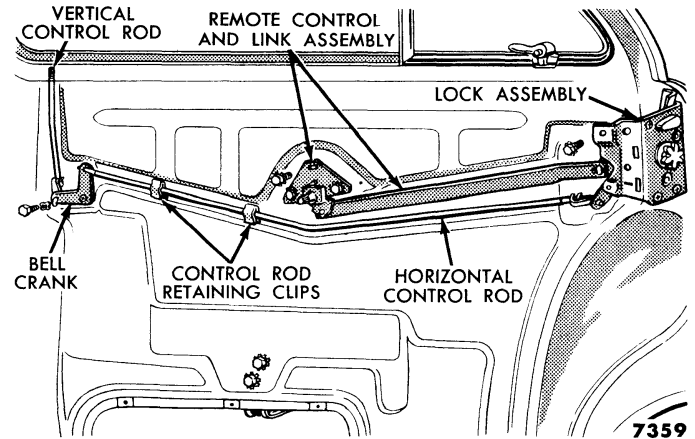
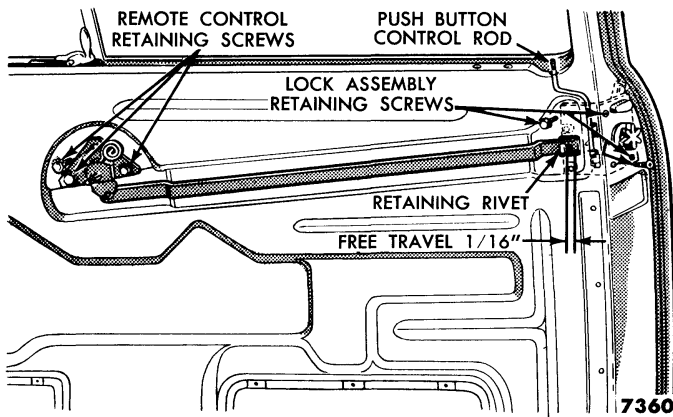

Fig. 14—Rear Door Locking Controls
Fig. 16—Front Door Locking Controls
The rear door control button operates the door lock through a bell crank which operates a horizontal rod connected to the door lock (fig. 14). To assure free operation, lubricate the bell crank and the anti-rattle that covers the horizontal rod.
(1) **REMOVAL.** Remove the door trim panel. Remove the inside locking button. On front doors, the lock assembly must be removed in order to disconnect the push button control rod (fig. 16). On rear doors, remove the cap screw at the bell crank. Bend the two clips off the horizontal rod, and disconnect the vertical and horizontal control rods from the bell crank (fig. 14).
(2) **INSTALLATION.** To install the control rod at the front door, first fasten the control rod to the lock assembly, then install the lock assembly (fig. 16).
To install the control rods at the rear door, fasten both rods to the bell crank (fig. 14). Fasten the horizontal rod to the door lock. Install the bell crank retaining screw. Bend the retaining clips over the horizontal rod. Install the door trim panel and hardware.
between the retaining rivet and the slot in the remote control link (figs. 14 and 16). Elongated holes are provided in the remote control assembly mounting bracket to make this adjustment. Loosen the retaining screws at the mounting bracket, and shift the bracket until the proper free travel is obtained. Tighten the screws securely after making the adjustment.
(2) **REPLACEMENT.** Remove the door trim panel. Remove the remote control retaining screws (fig. 16). Swing the remote control link downward to disengage it from the retaining rivet on the lock assembly.
A tab at the upper end of the lock side glass run assembly hooks into a bracket on the door face. The lower end of the assembly is attached to the lower bracket with a screw. Remove this screw, then, in order to release the tab from the bracket at the upper end, it will be necessary to release the glass run retaining clips along the top and side of the window. Lower the glass, release the upper glass run retaining clips, lift the lock side glass run up to unhook it from the bracket, then raise the glass far enough to clear the lock assembly. Remove the lock retaining screws (fig. 16). Move the glass run to one side to provide clearance, then lower the lock assembly out of the door.
Tighten the three retaining screws at the face of the lock before tightening the one screw at the inner panel (fig. 16). This will assure proper lock alignment.
(2) **REAR DOOR.** Remove the control rod assembly and the inside handle remote control linkage (fig. 14). Remove the plastic sheet from the inner door panel. Remove the lock assembly retaining screws and withdraw the lock assembly from the access hole.
Install the lock assembly through the upper access hole and secure it in place with the retaining screws. Tighten the three screws at the face of the lock before tightening the one screw at the inner panel. This will assure proper lock alignment (fig. 14). Install the inside handle remote control linkage and adjust free play. Install the control rod assembly and the plastic sheet.